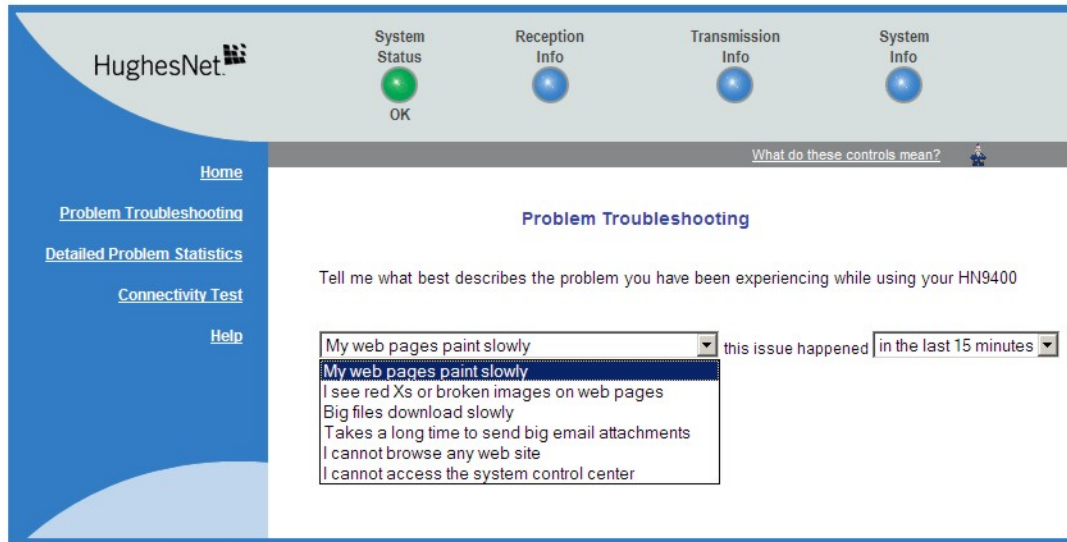

Figure 69: Problem Troubleshooting page
1. Click the **Problem Troubleshooting** link in the left panel of any System Control Center page—except, on the System Control Center home page, the **Problem Troubleshooting** link is located below the DIAGNOSTIC UTILITIES heading. The Problem Troubleshooting page opens (*Figure 69: Problem Troubleshooting page on page 88*).